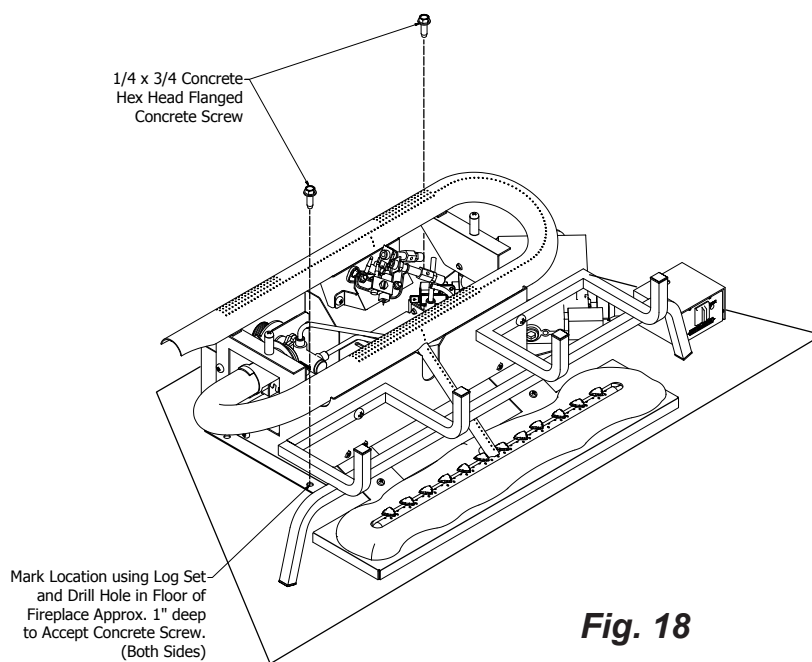

Fig. 18
- Drill two (2) 5/32" diameter holes approximately 1" deep.
- Anchor the front pan to the floor using the (2) Concrete Attachment Screws (Not Included). (See Fig. 18).